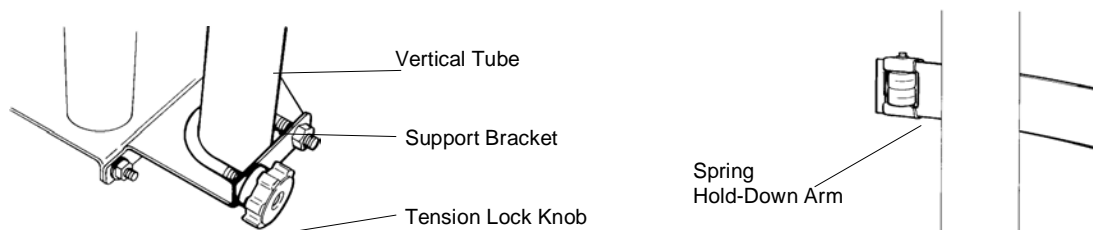

Figure 60: Installing the Hold-Down Bar
1. Attach the top and bottom support brackets (Fig. 60) with four $\frac{5}{16}$ " x $\frac{3}{4}$ " (7.9mm x 19.05mm) cap screws and nuts. The top bracket is marked "T" and the bottom bracket is marked "B".
3. Attach the top and bottom tension locks as shown in Fig. 60.